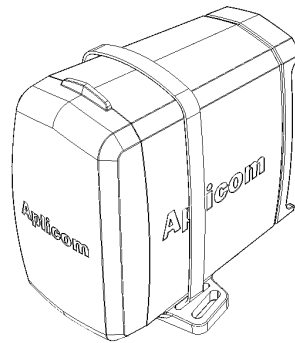

Figure 2.
2. With the Cable tie. Put the cable tie through the inner openings. Figure 2.